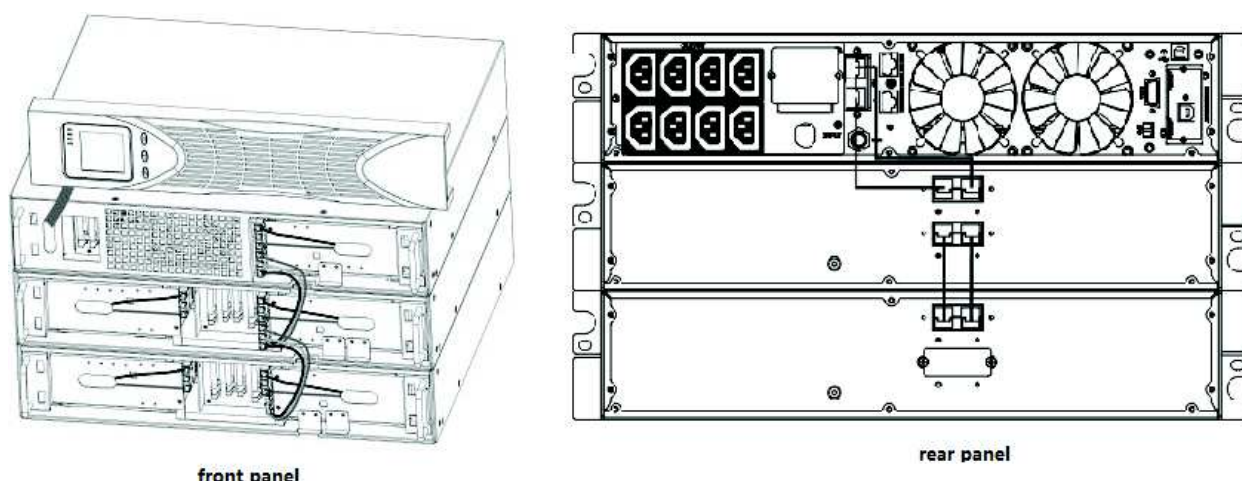

Figure 10 Typical EBP Installation
c) For the bottom (or only) EBP, remove the EBP cable knockout on the top of the EBP front cover. See Figure 10 for the location of the top EBP cable knockout.
d) If you are installing more than one EBP, for each additional EBP remove the EBP cable knockout on the top and bottom of the EBP front cover. See Figure 10 for the location of the EBP cable knockouts.
- e) Plug the EBP cable(s) into the battery connector(s) as shown in Figure 10.